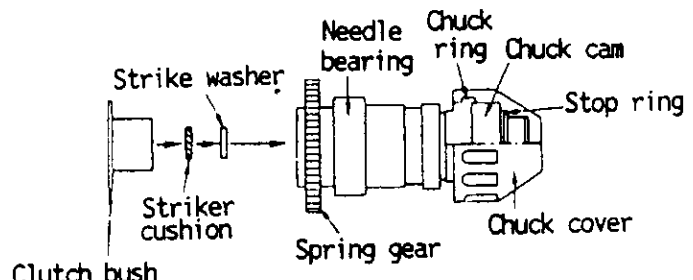

Fig.4
- (Output shaft block) (See Fig. 4)